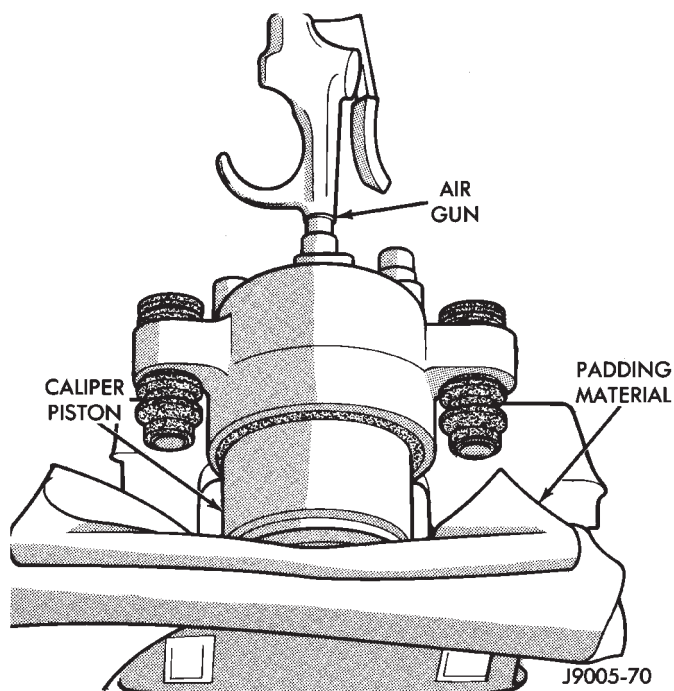

Fig. 13 Removing Caliper Piston
- (3) Remove caliper piston with one or two **short bursts** of low pressure compressed air. Direct air through fluid inlet port and ease piston out of bore (Fig. 13).